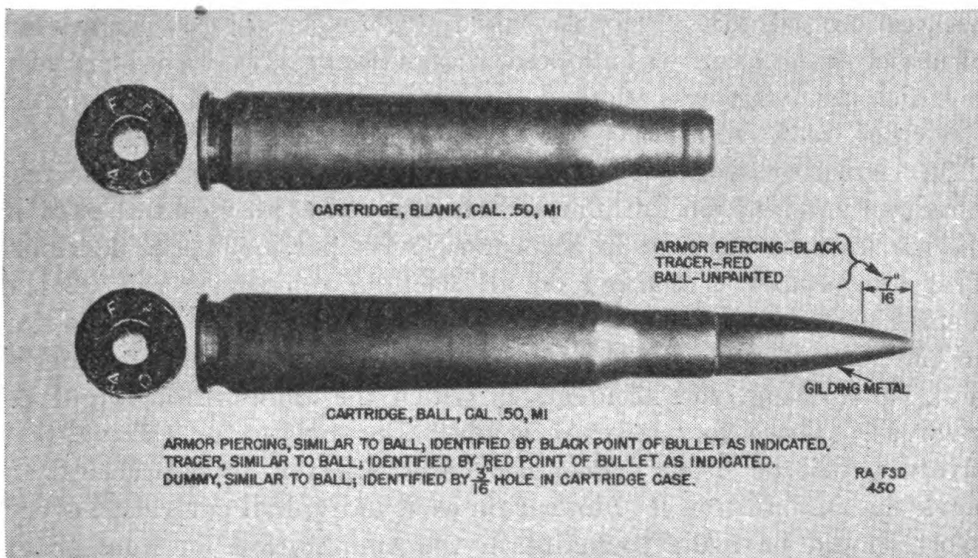

FIGURE 31.—Caliber .50 cartridges.
b. When removed from their original packing containers, the cartridges may be identified, except as to ammunition lot number and grade, by physical characteristics as described below and shown in figure 31. Care should be taken not to confuse these original markings with any subsequent markings made with lithographic marking ink, which is used for an entirely different purpose. (See par. 39.)